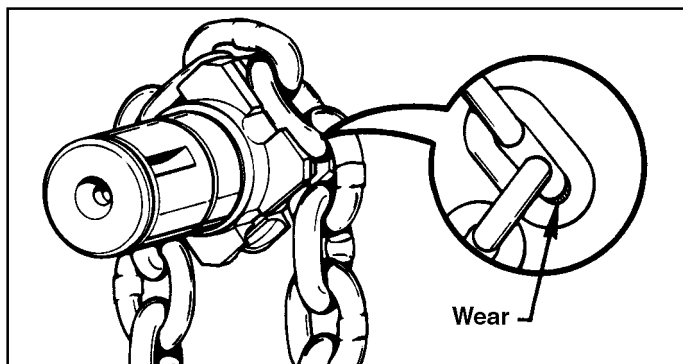
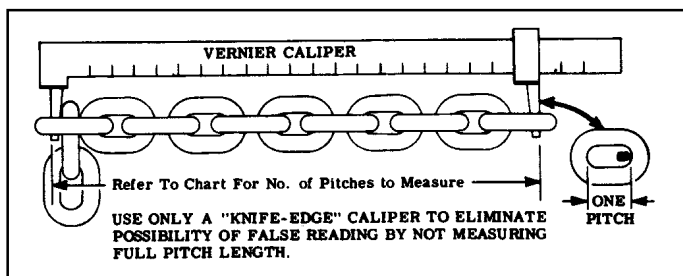

Figure 5-1. Check Chain Wear at Bearing Surfaces Between Links
Figure 5-2. Check Coil Chain Using Vernier Caliper
- (1) Operate hoist under load and observe operation of chain over sprocket in both directions of chain travel. Chain should feed smoothly into and away from the sprocket. If chain binds, jumps or is noisy, first see that it is clean and properly lubricated. If trouble persists, inspect chain as outlined below.
- (2) Clean chain for inspection. Examine visually for gouges, nicks, weld splatter, corrosion or distorted links. Slacken chain and check bearing surfaces between links for wear, Figure 5-1. Greatest wear will often occur at sprocket at high or low point of lift, particularly when hoist is subjected to repetitive lifting cycles. Case hardness of chain is about .015" deep. Chain must be replaced before the case is worn through. Also check chain for elongation using a vernier caliper (Figure 5-2). Select an unworn, un-stretched section of chain (usually at slack or tail end) and measure and record the length over the number of chain links (pitches) indicated in Figure 5-2. Measure and record the same length of a worn section in the load side of the chain. Obtain the amount of wear by subtracting the measurement of the unworn section from the measurement of the worn section. If the result (amount of wear) is greater than the amount specified in the "ALLOWABLE CHAIN WEAR" table, the chain has elongated beyond the maximum allowable length and must be replaced. Chain with excessively pitted, corroded, nicked, gouged, twisted or worn links should be replaced using only factory approved chain. **Never weld or attempt to repair coil chain.**